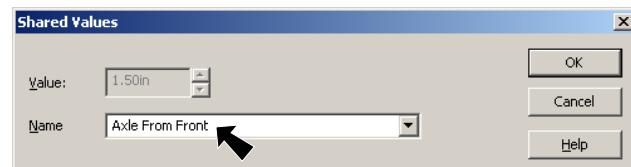

Fig. 13
Step 12. In the Shared Values dialog box, key-in Axle From Front for the Name and click OK, Fig. 13.